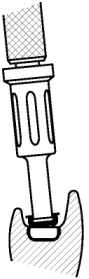

Fig. 9
8. Use the Locator Male Removal Tool (attached to the Locator Core Tool, Zest order No. 8393) to remove the Black Processing Male from the metal Denture Cap. The sharp circular edge on the end of the removal tool should be wedged tightly down into the very bottom of the male so that it will catch the inside of the male to pull it at an angle out of the metal housing. (Fig. 9) To discard the male from the tip on the Core Tool, point the tool down and away from you and tighten the Male Removal Tool clockwise back onto the Core Tool. This will activate the Removal Pin and dislodge the male from the tip end of the Male Removal Tool.